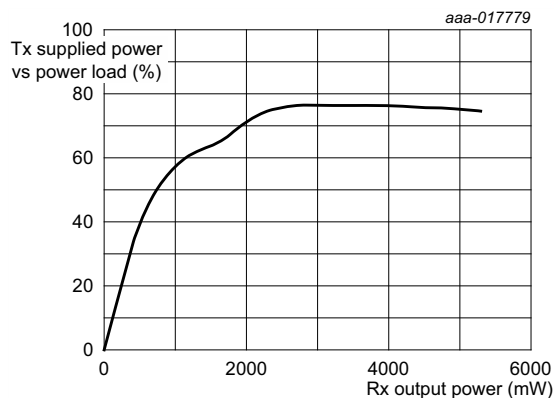
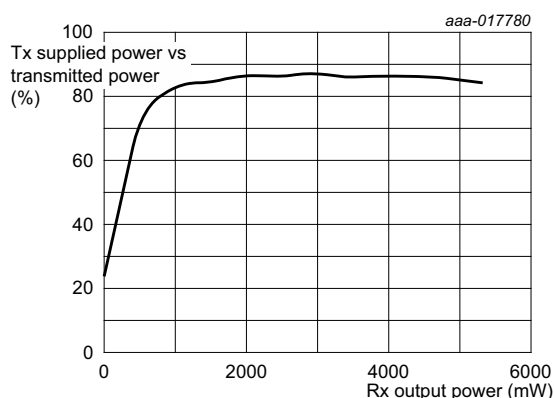

Fig 5. Graph of system efficiency as a function of output power at  $V_{DDP} = 5\text{ V}$
Fig 6. Graph of power transfer efficiency as a function of output power at  $V_{DDP} = 5\text{ V}$
**Remark:** The curves in Figure 5 and Figure 6 are measured on the NXP Semiconductors DB1340 boards with: